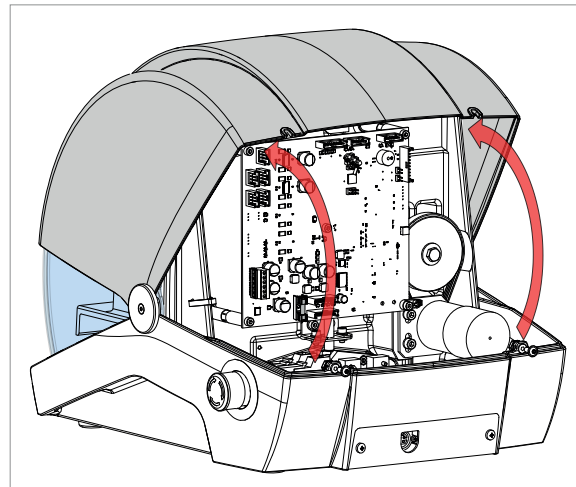

Fig. 46
- 3) Rotate the cover towards the front of the machine (Fig. 46).